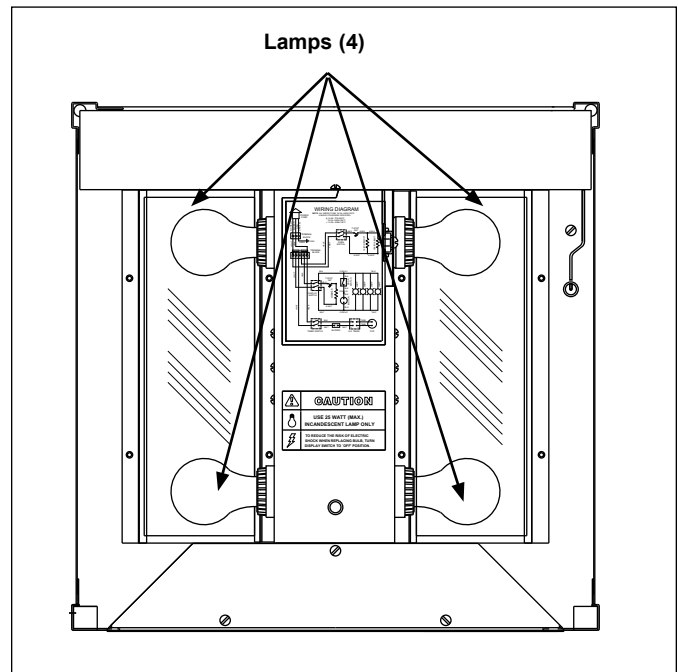

Figure 2. Lamp Replacement
3. Remove the Top Cover and set aside (item 35, page 12).
4. Replace light bulbs as needed (Figure 2).